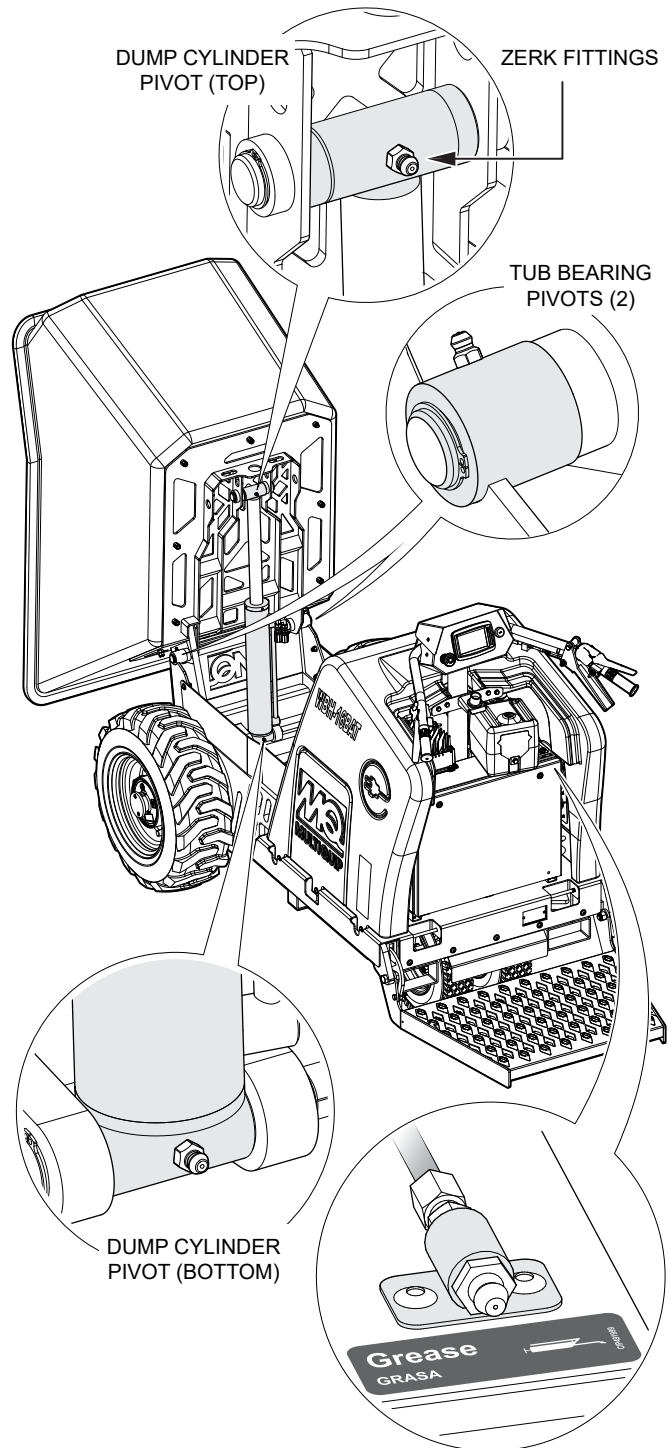

**Figure 25. Activating Dump Cylinder**
3. Activate the dump cylinder in short increments while increasing the length with each successive stroke (Figure 25). Retract the tub, and inspect the oil level.